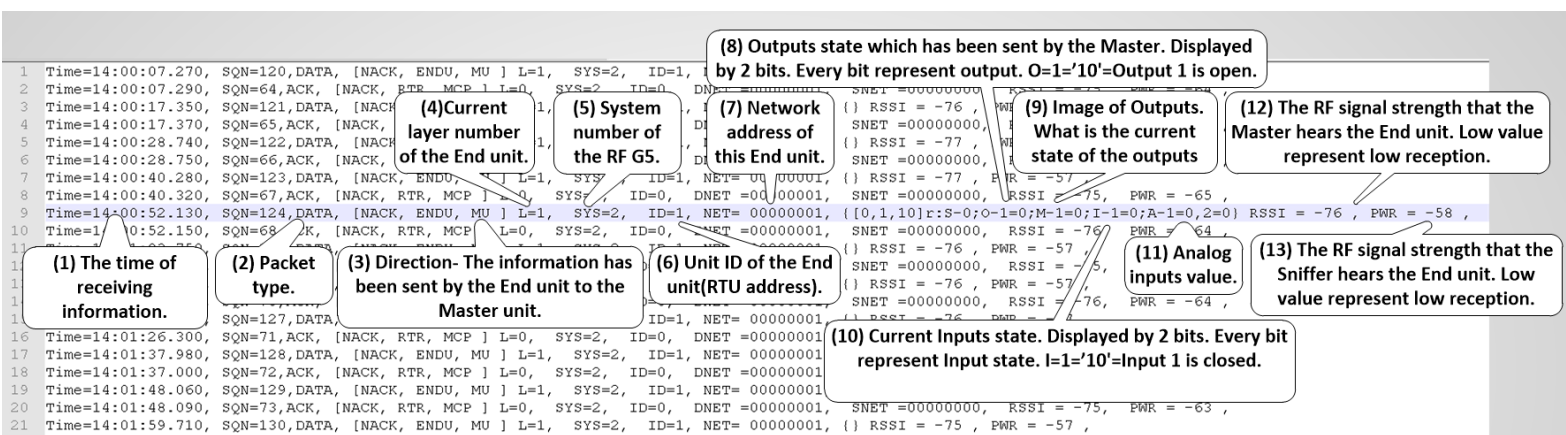

Figure 6- Description of the Sniffer results.
Figure 6 describes an example of a packet that has been sent by the **End unit** number 1 to the **Master unit**. Here are the terms and their explanations:
2. **Type**-Every packet has been classified by type. Figure 6 describes a **DATA** type. It means that the **End unit** sends information about Outputs, Digital and Analog Inputs state.